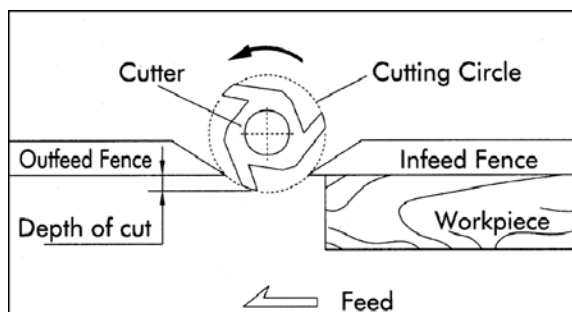

Figure 26
1. For normal work, where a portion of the original edge of the stock is not touched by the cutter, both the infeed and outfeed fences are in a straight line, as shown in Figure 26.